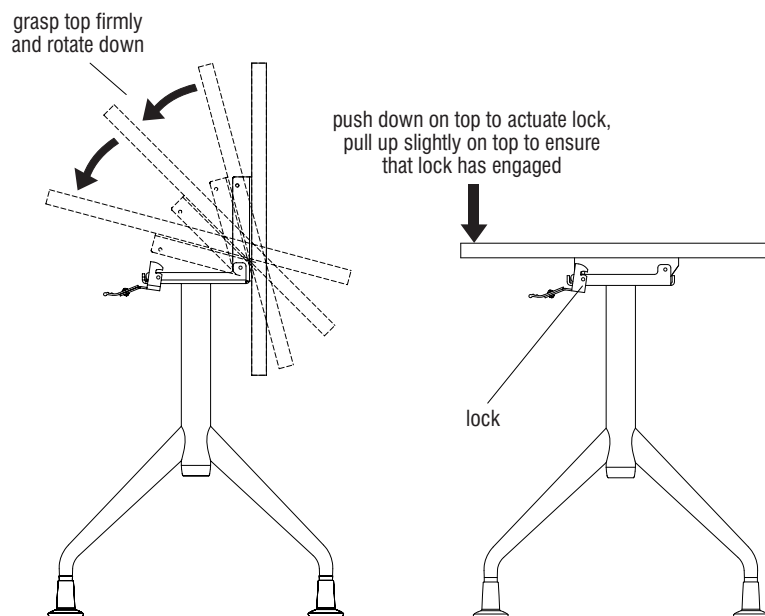

Figure 4
1. Grasp table top firmly, lower into place and press down on front edge to lock the table top into place (Figure 4).
2. Lift up slightly on front edge of top to ensure it is locked in place. Apply more down ward pressure if it is not engaged (Figure 4).